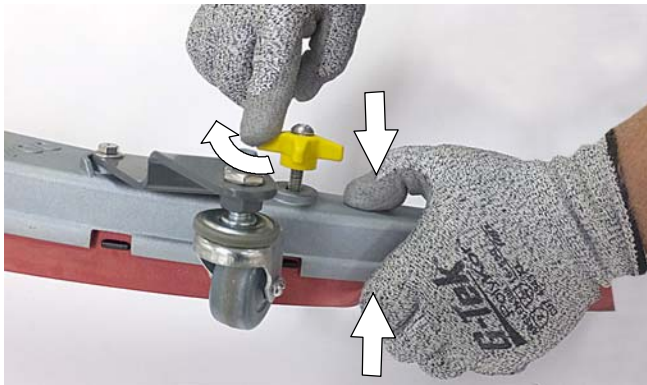

FIG. 89
5. Squeeze the squeegee frame and blade retainer together and re-tighten the two outside knobs (Figure 89).